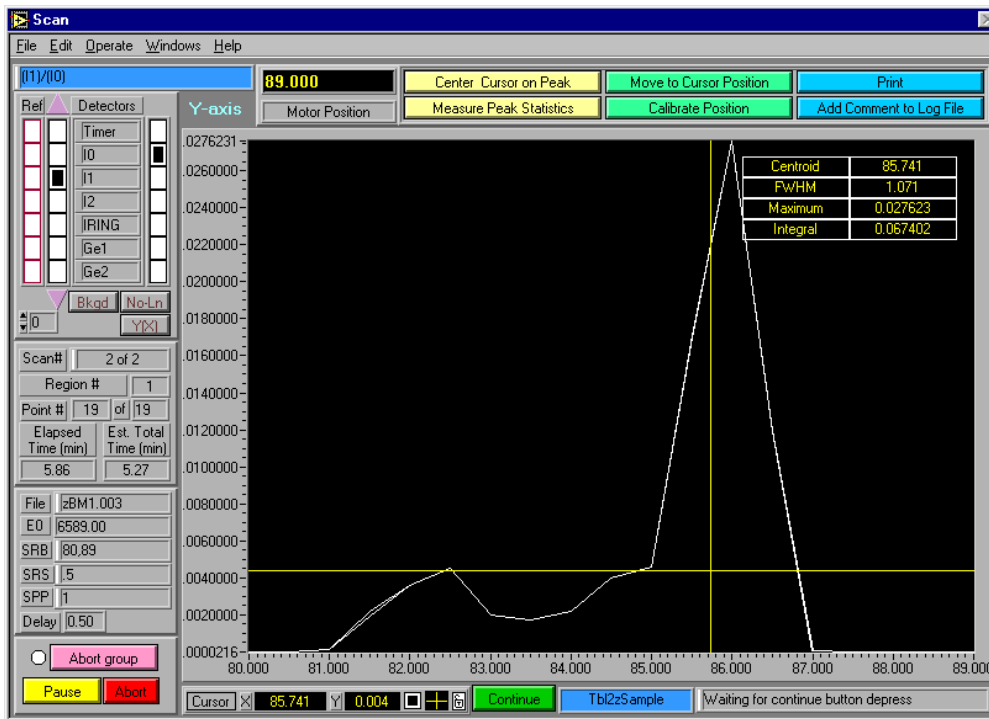

Fig. 7.
2. Turn beam on and on the main screen make sure that the scan type is Energy & element is of the metal foil. Click on User and choose mid_edge scan, choose 1 scan and click Start Scan. A new window appears (Fig. 7).